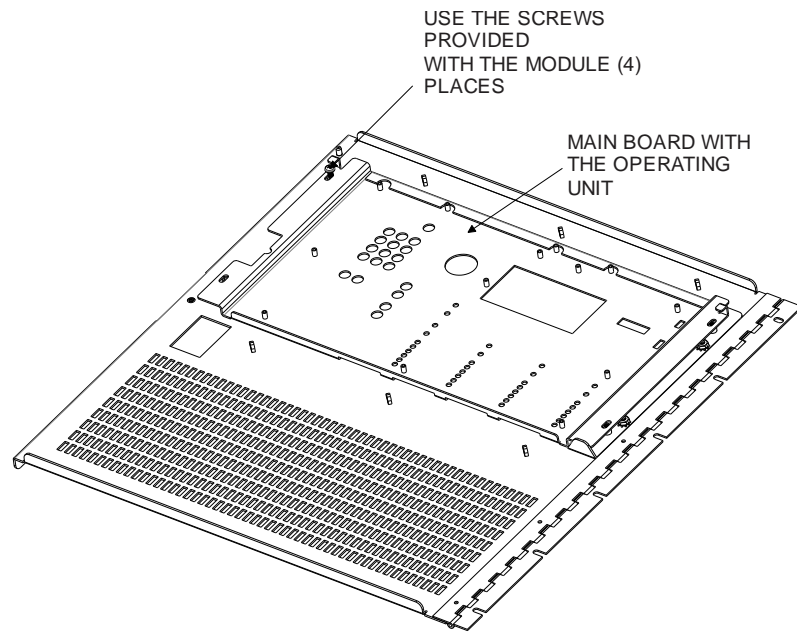

Figure 6: Mounting the FCM901-U2 on the Inner Door
7. For FC360 panels, install the FCM901-U2/-U3 into the inner door as shown in Figure 6.